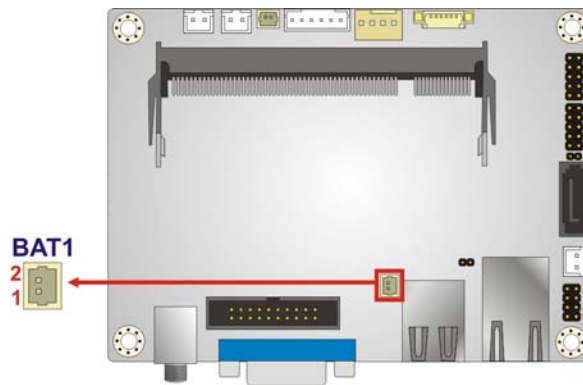

Figure 3-4: Battery Connector Location
- CN Location: See **Figure 3-4**